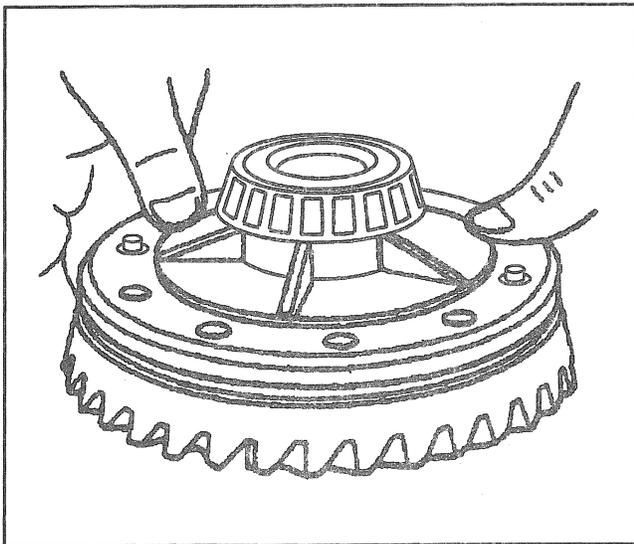

Figure 19—Aligning the Ring Gear Studs
- 5. Pinion thrust washers (30).
- 6. Ring gear (15) to the differential case (27).
- B. Place the ring gear onto the case, and align the holes in the case with the bolts (Figure 19).